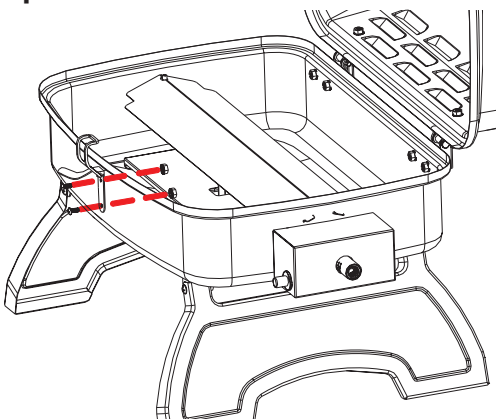

Fig. 7
*Locate:* Latch, (2) M4x10 bolts, (2) M4 nuts
*Procedure:* Attach the Latch to the firebox using (2) M4x10 bolts and (2) M4 nuts as shown in Fig. 7.